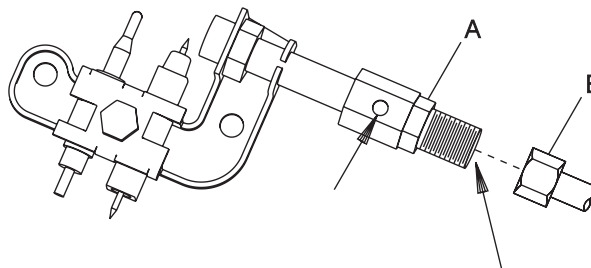

Figure 12
Oxygen Depletion Sensor Pilot - See Figure 12
2. Apply air pressure through the holes in the pilot indicated by the arrows in **Figure 12**. This will blow out foreign materials such as dust, lint and spider webs.
5. Disconnect pilot tubing from pilot. **See Figure 12, Page 12.** Grasp nut A with a wrench when removing nut B with a second wrench.
- c. Pilot is blocked from spider web or dirt - clean pilot, see **Figure 12**, Page 12.
- d. Pilot flame not surrounding thermocouple - clean pilot, see **Figure 12**, Page 12.
- a. Pilot is blocked - clean pilot, **See Figure 12**, Page 12.